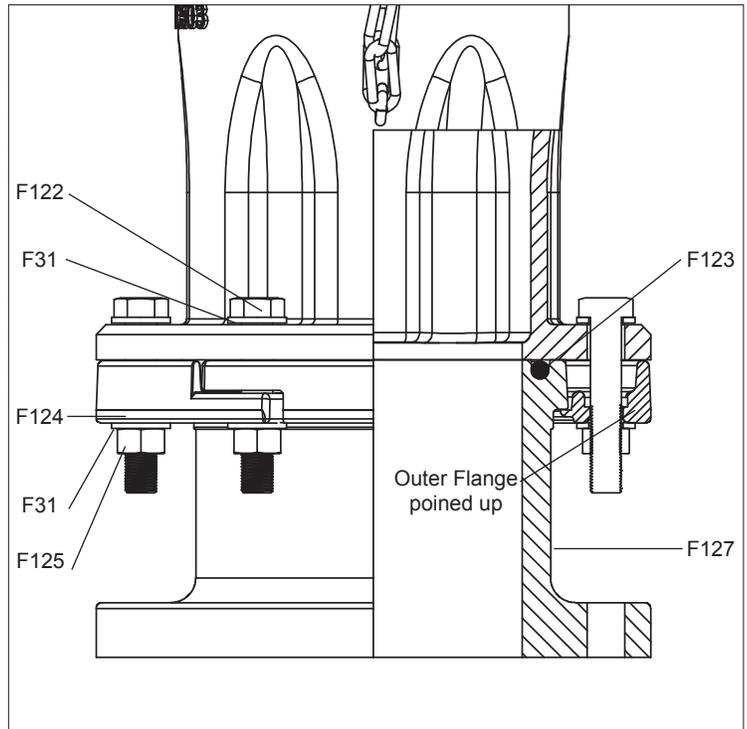

Fig. 6
3. Install the Nozzle Section Bolts (F122), ( with a new Nozzle Section Washer (F31) beneath the head of each bolt), into six mounting holes. ( See Fig. 6 )